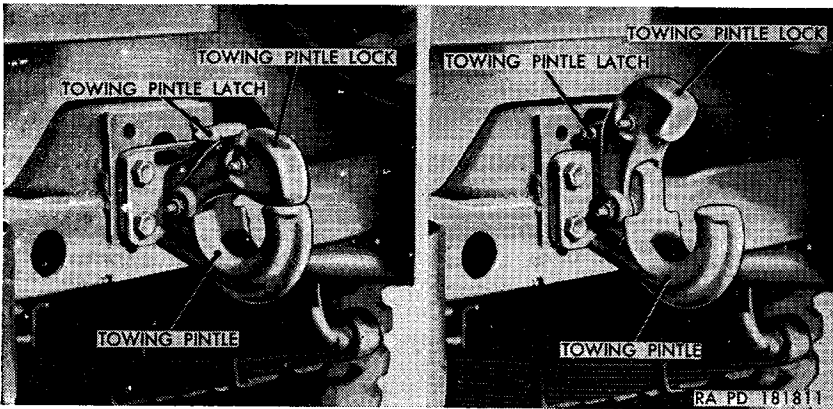

Figure 17. Towing pintle operating positions.
a. *General.* The vehicle is equipped with two front and two rear lifting shackles and a towing pintle (fig. 17). The pintle is located at the rear of the vehicle and is the prime means of attaching a trailer, towing cable, or towing bar. To open pintle, pull the towing pintle latch to the rear, and, at the same time, pull up on the towing pintle lock. To close pintle, push down on lock.
- (1) Connect the to-be-towed and towing vehicles by a suitable cable, chain, rope, or towing bar of sufficient length to permit maneuverability of both vehicles.
- (2) Place the transfer high and low range gearshift lever of towed vehicle in **HIGH** gear range position. Place the transfer front wheel drive gearshift lever in the **OUT** position.
- (3) Depress the clutch pedal and place the transmission gearshift lever in third (**HIGH**) gear.
- (4) Turn ignition switch to **ON** position. Pull out choke control if engine is cold. Release the hand brake handle.
- (5) Move towing vehicle slowly until all slack is taken up in towing line between towed and towing vehicle; then tow vehicle.
- (6) After towed vehicle is under way, release clutch pedal slowly and depress accelerator pedal slightly. As engine starts,